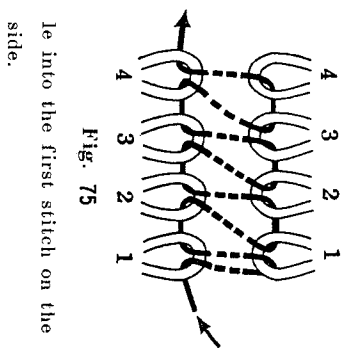

Fig. 75
(D) Insert the needle into the first stitch on the upper side back through the wrong side of the second upper stitch. (Fig. 75)